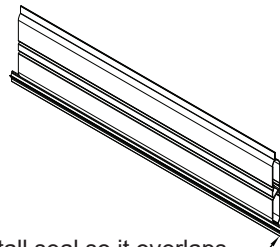

Figure 8
- 2) Install seal so it overlaps on each end of the blade. Do not stretch the seal. (Figure 8)